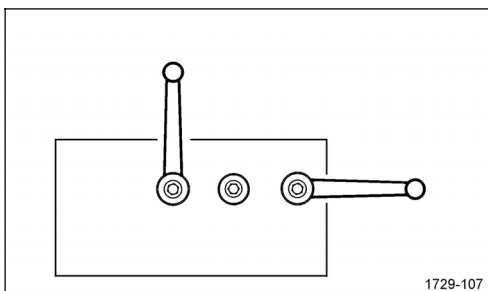

Figure 69
- ☐ Set the right ball valve according to Figure 69.